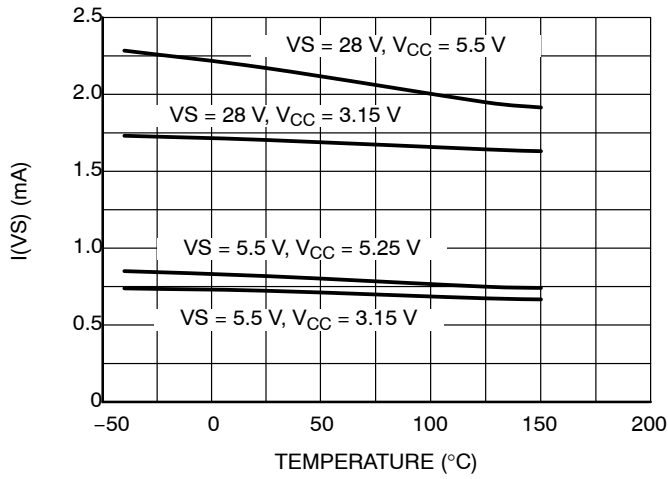

Figure 11.  $I(VS)$  vs. Temperature
- Refer to Figure 11. I(VS) versus Temperature.